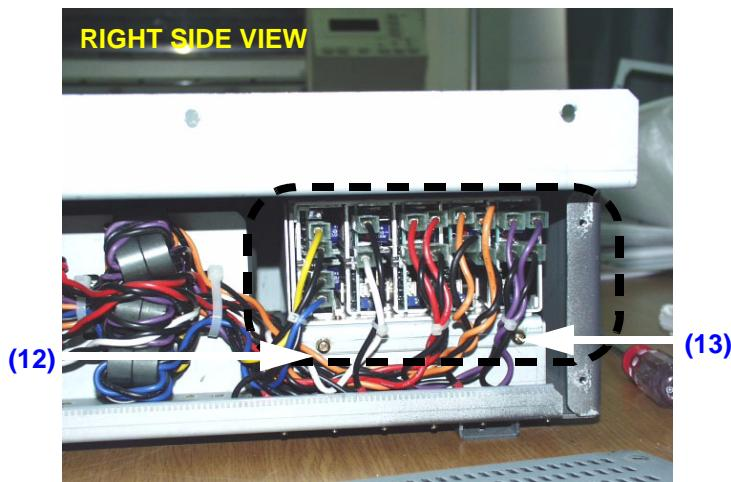

Figure 8-175 Unscrew 4 screws and disconnect 20 connectors
- 4.) Unscrew two (2) screws (12-13) and disconnect twenty (20) connectors from the front side of the LV unit using long-nose gripper. Refer to Figure 8-175.